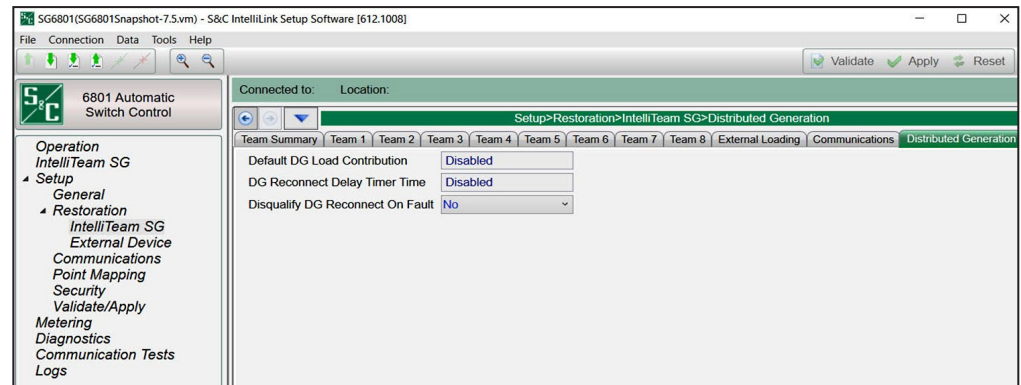

Figure 34. The *Setup>Restoration>IntelliTeam SG>Distributed Generation* screen.
STEP 2. Verify the new DG attributes are set correctly in the IntelliTeam system device teamed with the distributed generation device by going to the *Setup>Restoration>IntelliTeam SG>Distributed Generation* screen. See Figure 34.